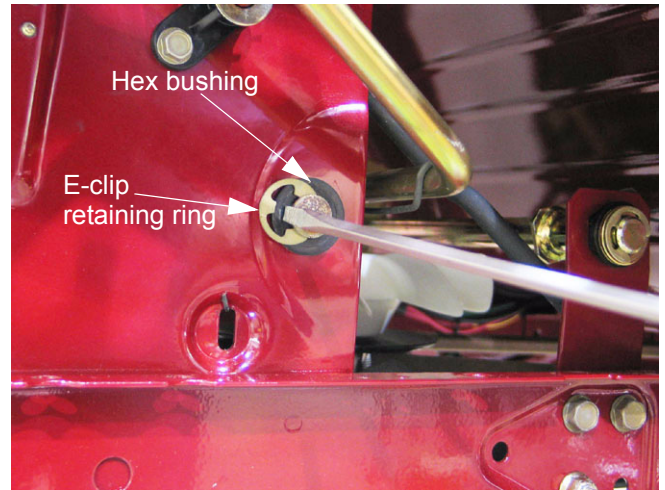

Figure 5.4
- 5.4. The bushings that support the lift shaft assembly are easily replaced. See Figure 5.4.